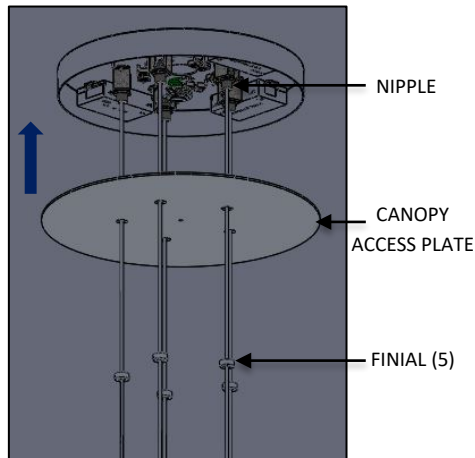

FIG. 13 - FINIAL INSTALLATION
9. Raise CANOPY ACCESS PLATE and secure to ceiling by threading the 5 FINIAL to NIPPLE (available in HANGING BRACKET) as shown below in FIG. 13.